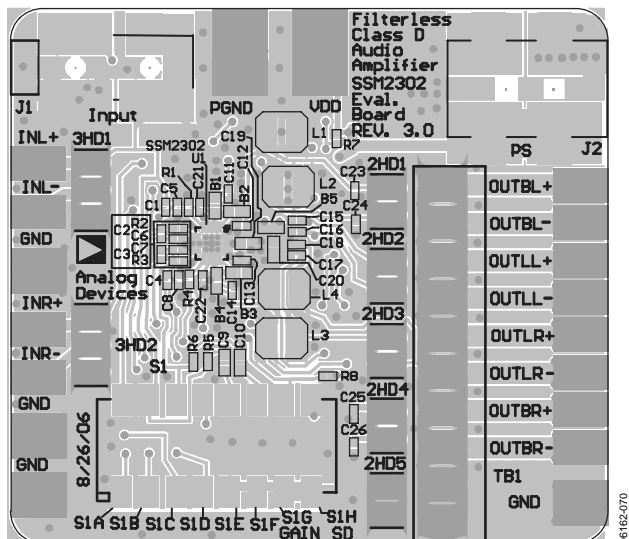
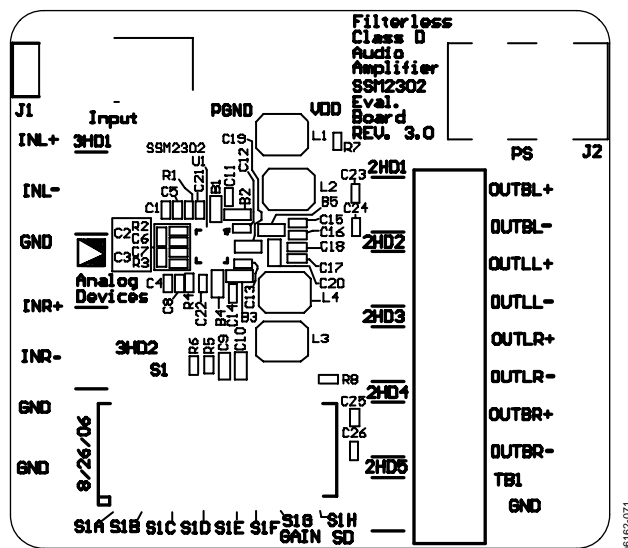
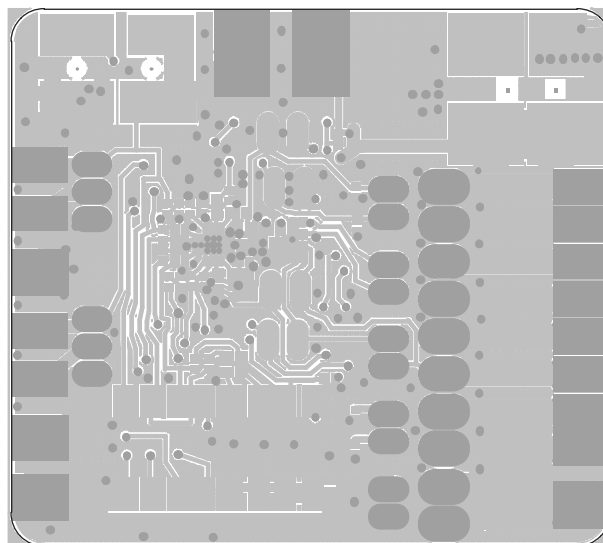

Figure 41. Top Silkscreen Layer with Other Top Layers
Figure 42. Top Silkscreen
Figure 43. Top Layers Without Top Screen Layer
The silkscreen layer of the evaluation board is shown in Figure 41 with other top layers, including top copper, top solder mask, and multilayer (vias).
Figure 42 shows the top silkscreen layer only. There is no component in the bottom side; therefore, there is no bottom silkscreen layer.
Figure 43 shows the top layers without the silkscreen layer.
All the output ports are located on the right side of the board and marked with the corresponding names. Please see the legend on the board in Figure 42 and the schematic in Figure 46.
1. Place nine vias onto the thermal pad of the amplifier. The outer diameter of the vias should be 0.5 mm and the inner diameter should be 0.33 mm. Use a PCB area of at least 2 cm × 2 cm or an equivalent area on the back side of the PCB layer as the heat sink (see Figure 41, Figure 42, and Figure 43). If there are internal layers available within the PCB, allocate an area as large as possible for the ground plane(s) and connect these vias to the plane(s).
8. Decouple the input port nodes and the digital pins, Pins 3, 4, 5, 8, 9, and 10, with small capacitors, such as 100 pF. These capacitors are not necessary, but can lower the EMI from these pins. The ground terminals of these capacitors should be connected to the chip ground as close as possible (see Figure 41, Figure 42, and Figure 43).
10. Connect the ground pins, Pins 6, 7, 13, and 16, to the thermal pad and place grounding vias as shown in Figure 41, Figure 42, and Figure 43.